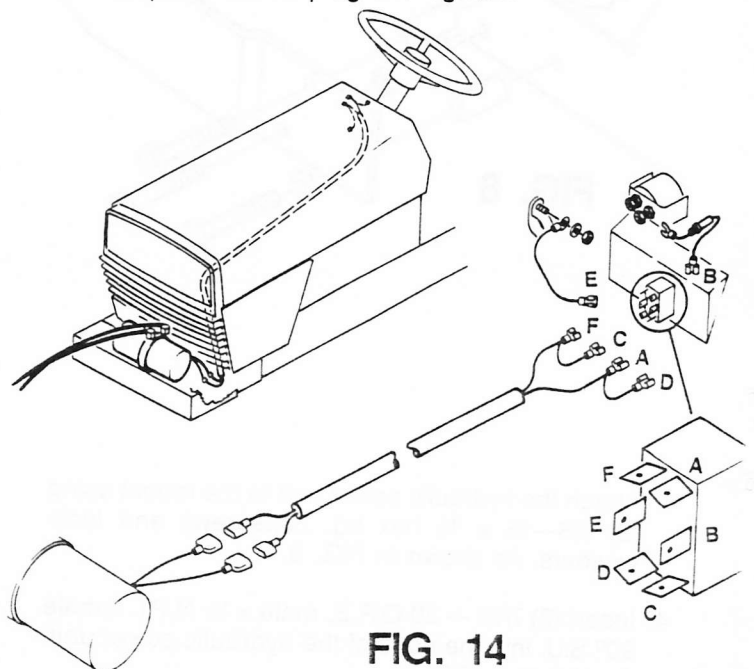

FIG. 14
11. Connect the positive wire with in-line fuse to the L.H. center terminal of the switch and the L.H. post of the ammeter gauge. Connect the ground wire to the R.H. center terminal of the switch and the tractor frame as shown in FIG. 14.
12. Route the wire assembly from the front of the tractor to the switch and connect to the switch as shown in FIG. 14.